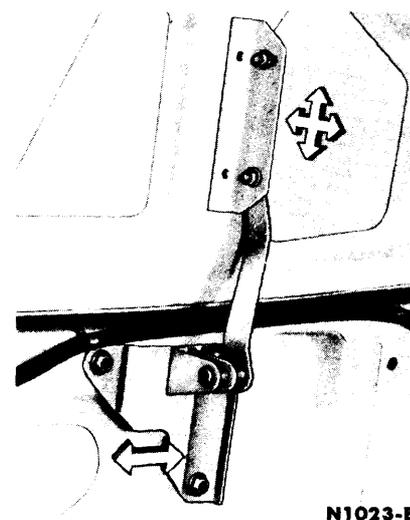

FIG. 80—Deck Lid Finish Panel Adjustments
1. Slightly loosen the screws that attach the finish panel hinge to the deck lid (Fig. 80).
1. Slightly loosen the hinge arm retaining bolts at the finish panel (Fig. 80).